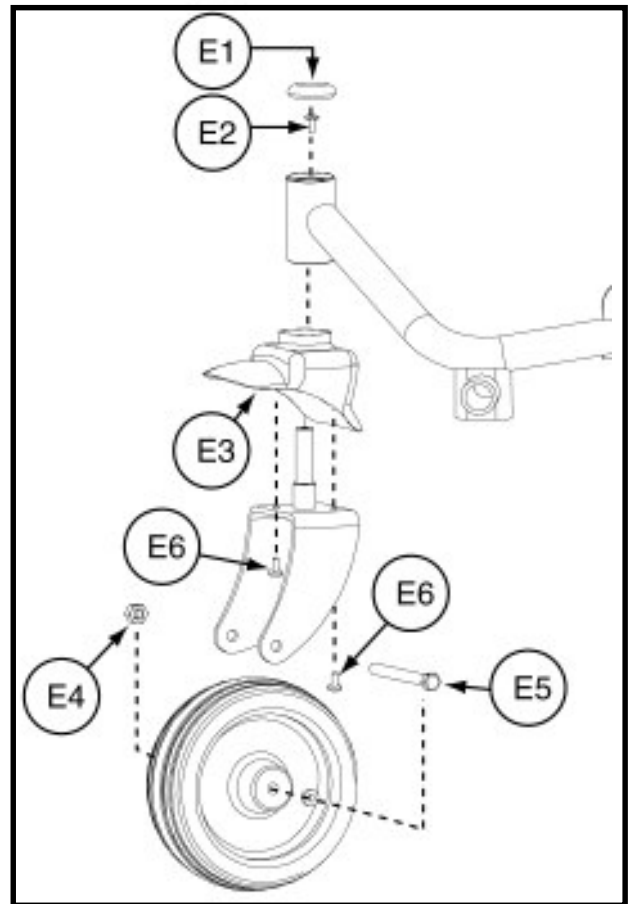

Figure 4. Fender-Fork Assembly
1. Remove the weather cap (E1), on top of the fork assembly, by popping it off. *See figure 4.*